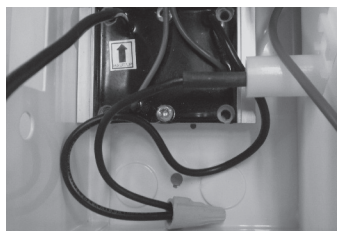

FIG. 3
5. Connect one of the black wires of the relay with the wires of the heating element, using a wire nut. FIG. 3